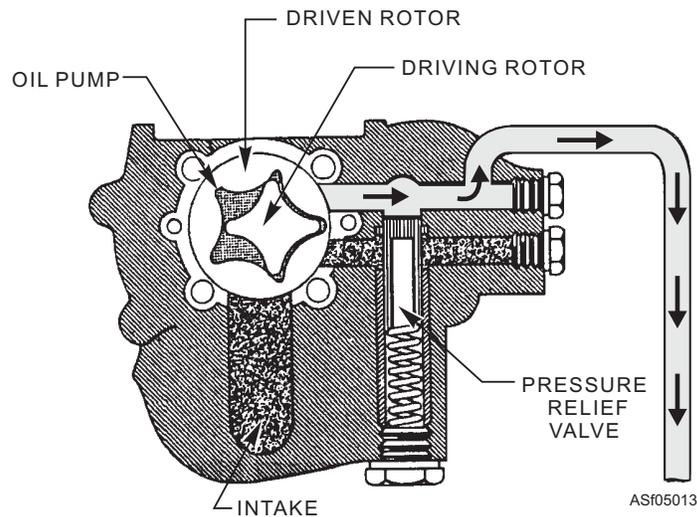

Figure 5-13.—Rotary oil pump.
**ROTARY PUMP.**—The rotary pump (fig. 5-13) has an inner rotor with lobes that match similar shaped depressions in the outer rotor. The inner rotor is off center from the outer rotor. As the inner rotor turns, it turns the outer rotor with it. As the two rotors turn, the openings between them are filled with oil. This oil is forced out from between the rotors as the inner rotor lobes enter the opening in the outer rotor. As you can see in figure 5-13, the inner rotor lobes have very little clearance as they approach the discharge. This allows the oil to be pressurized prior to discharge.